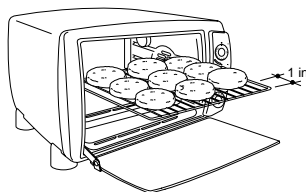
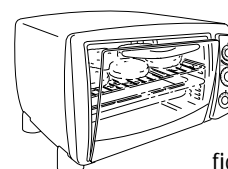

fig. 2
fig. 3
Once the preheating time is complete, place the food being grilled directly on the wire rack (Figure 2) and close the door, leaving it ajar, as shown in Figure 3; remember to turn the food half way through cooking.
**Important: for best results, place the food on the wire rack (O), leaving an empty space of around 1 in near the door (see Figure 2).**